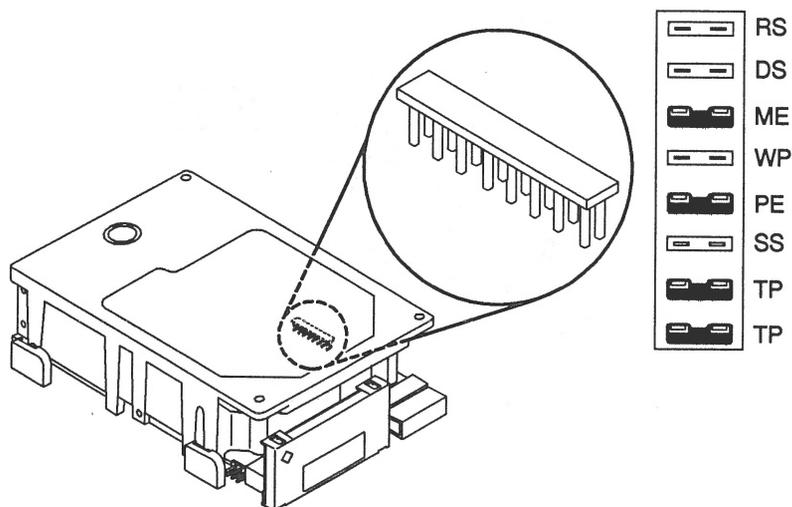

Figure 3-9 Configuration Jumper Settings
1. Compare the drive configuration jumper settings to the settings shown in Figure 3-9.